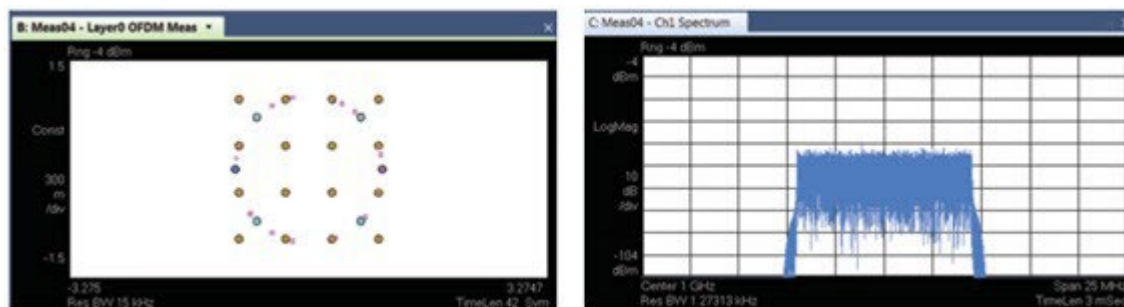

Figure 12. Constellation and spectrum of 16 QAM LTE without interference
Figures 12 and 13 demonstrate the impact of co-channel interference. These measurements were performed on a lab test system to show the concept since a constellation is not easily obtainable in a field test. Figure 12 shows LTE signal quality without co-channel interference. We see synchronization channels with binary phase-shift keying (BPSK), physical broadcasting channel with quadrature phase-shift keying (QPSK), and downlink shared channel (traffic channels) with 16 quadrature amplitude modulation (QAM). Sync channels and broadcasting channel modulation form a circle (Figure 12). When a wireless microphone signal (FM) transmits at the center of an LTE channel where both the sync and broadcasting channels are assigned, the constellation gets blurred, and the control channels become indistinguishable from the traffic channels as shown in Figure 13. This prevents the mobile from synchronizing with the network, and the call eventually drops.